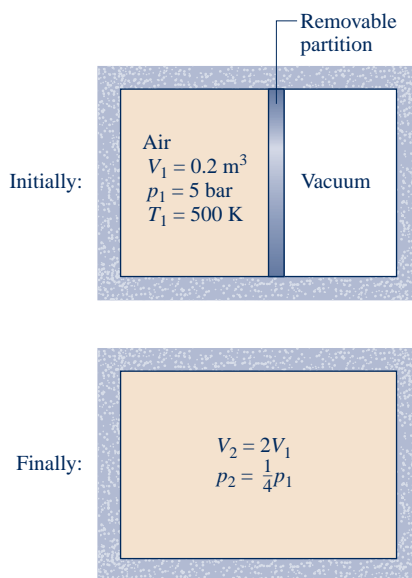

Fig. P3.128
3.128 Air is confined to one side of a rigid container divided by a partition, as shown in Fig. P3.128. The other side is initially evacuated. The air is initially at $p_1 = 5$ bar, $T_1 = 500$ K, and $V_1 = 0.2$ m³. When the partition is removed, the air expands to fill the entire chamber. Measurements show that $V_2 = 2V_1$ and $p_2 = p_1/4$. Assuming the air behaves as an ideal gas, determine (a) the final temperature, in K, and (b) the heat transfer, kJ.